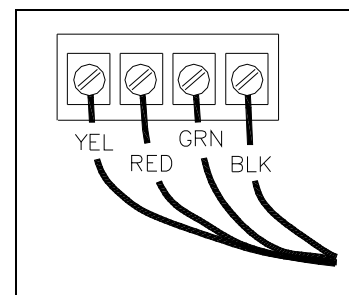

Figure 7. PCBA Connection
3. Disconnect the 7-foot half-modular telephone cord from the PCBA terminal strip, if connected (see Figure 7).
10. Connect the telephone cord to the PCBA terminal strip (see Figure 7).
13. Connect the telephone cord to the PCBA terminal strip (see Figure 7).